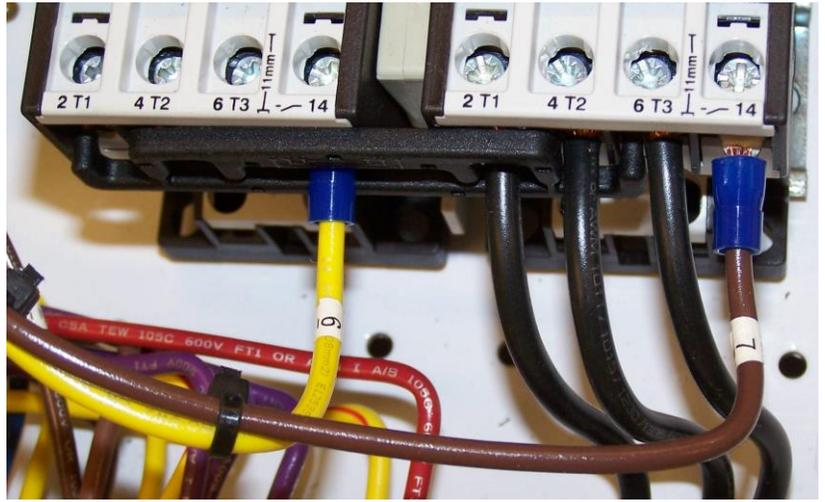

Figure 11
- The Yellow wire labeled #6 connects to the "REVERSE" contactor terminal "NO" lower position (Figure 11).
- The Brown wire labeled #7 connects to the "FORWARD" contactor terminal "NO" lower position (Figure 11).